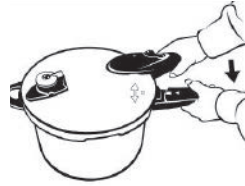

Figure 6
- (2) Press down slightly on the lid and turn clockwise just until the two handles match up and lock together. To ensure that the lid is properly closed, the lid handle and the body handle should align with each other. See Figure 6.
- (3) After locking the cooker, slide the pressure lock button down against the lid until the locking is heard. See Figure